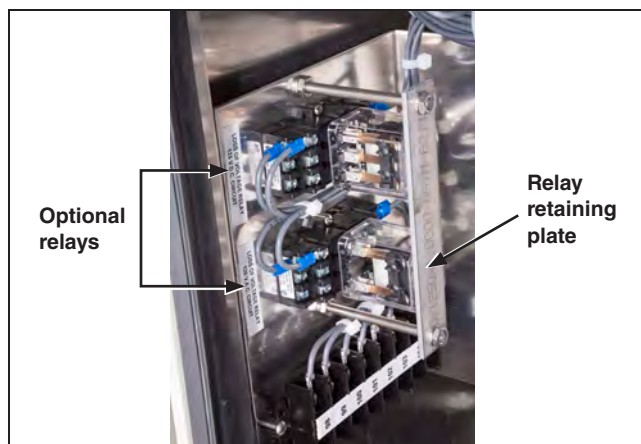

Figure 39. Making sure all optional “ice-cube” style relays are fully seated and the retaining plate is in place.
- Any optional “ice-cube” style relays (used for catalog option “-P” and “-T2”) are fully seated (See Figure 39 on page 31.)